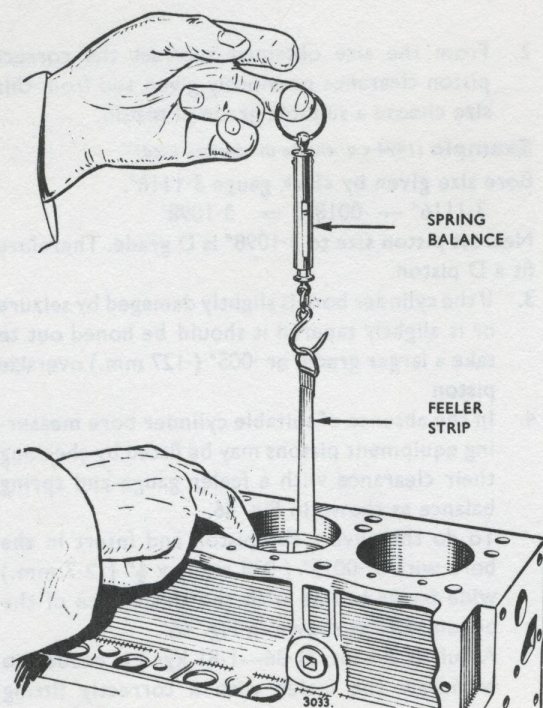

Fig. 46. Checking piston clearance with feeler and spring balance
4. In the absence of suitable cylinder bore measuring equipment pistons may be fitted by checking their clearance with a feeler gauge and spring balance as shown in Fig. 46.
To do this invert the piston and insert in the bore with a .0015" (.038 mm.)  $\times \frac{1}{2}$ " (12.7 mm.) wide feeler in line with the thrust face of the piston skirt as shown in Fig. 46.
The honing operation allows the bore size to be taken to the size that will allow the piston to be correctly fitted using a feeler to check the clearance as previously described and illustrated in Fig. 46. it is advisable to regrind and reset the cutter after completing each cylinder bore.